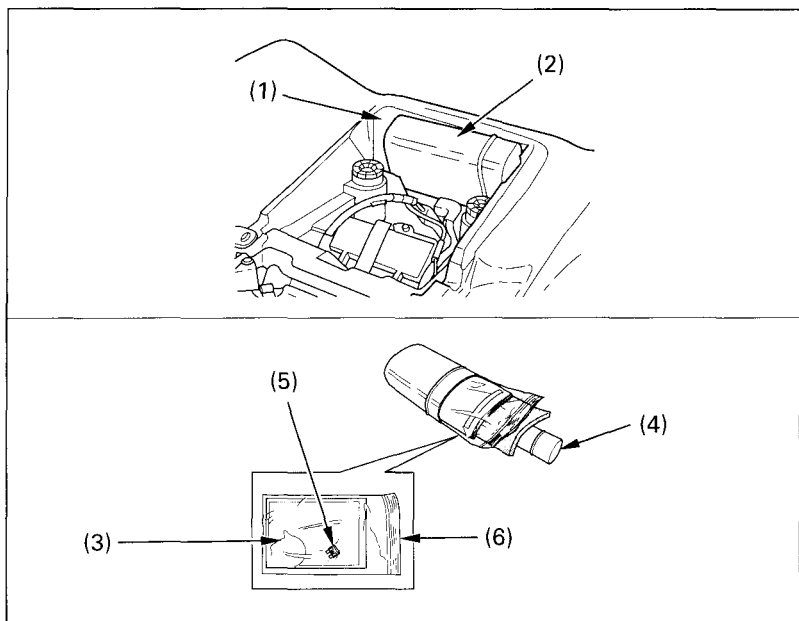

Fig. 2-18 (1) Storage compartment (4) Tool kit
The storage compartment (1) (Fig. 2-18) is located under the seat. To remove the seat, see page 120.